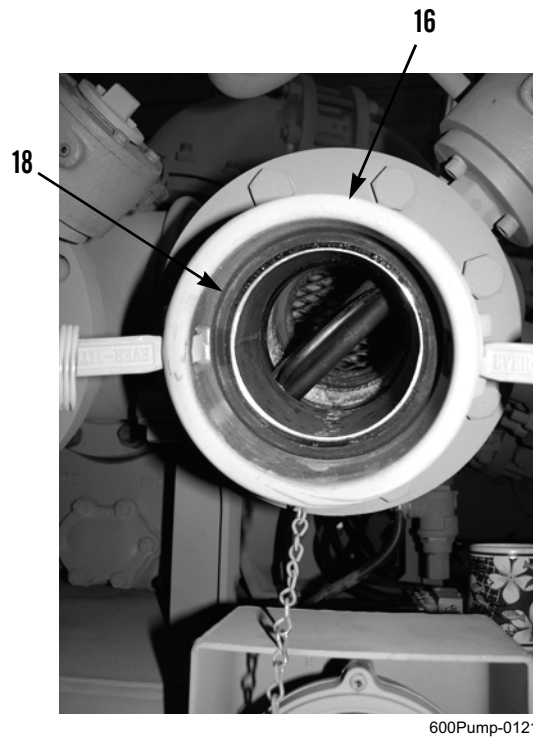

Figure 6. Gasket Inside Suction Inlet Flange.
12. Inspect gasket (Figure 6, Item 18) inside suction inlet flange (Figure 6, Item 16). Obtain replacement gasket, if damaged.